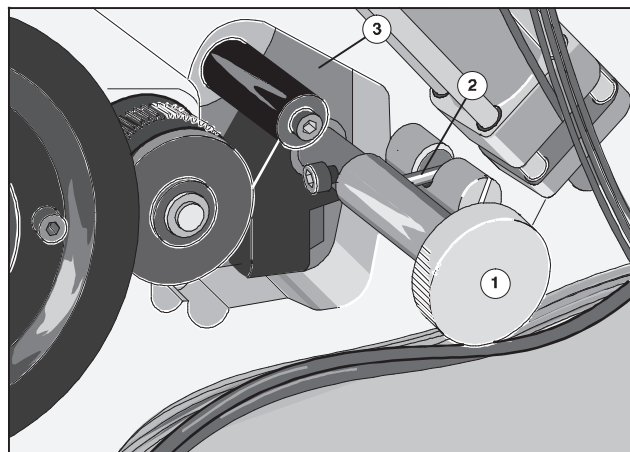

Fig. 53 Blanket washup device inserted
2. Insert the blanket washup device through the opening in the side frame on O.S. (Fig. 53/3).
3. Press in the blanket washup device with the handle (Fig. 53/1) up to the stop.
4. Turn the handle clockwise and let blocking piece at the pin (Fig. 53/2) engage.